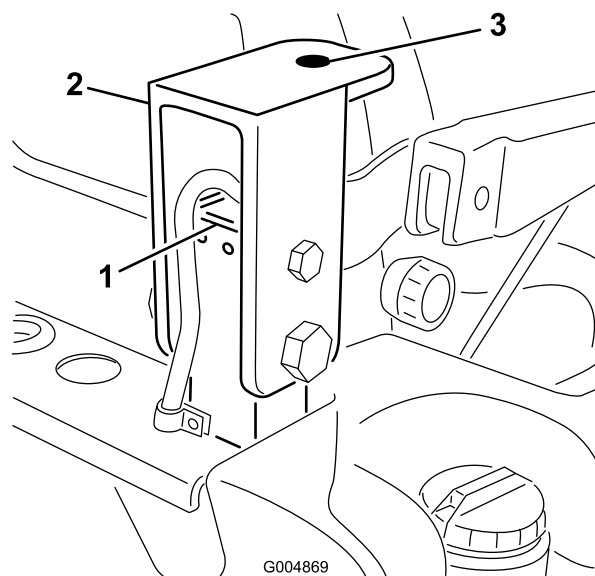

Figure 58
2. Loosely install a cab mount support to each ROPS post with two bolts (1/2 x 3-1/2 inches), two nuts (1/2 inch), two bolts (3/4 x 3-1/2 inch) and two nuts (3/4 inch) (Figure 58). Make sure the top plate hole is positioned forward. Do not tighten bolts at this time.